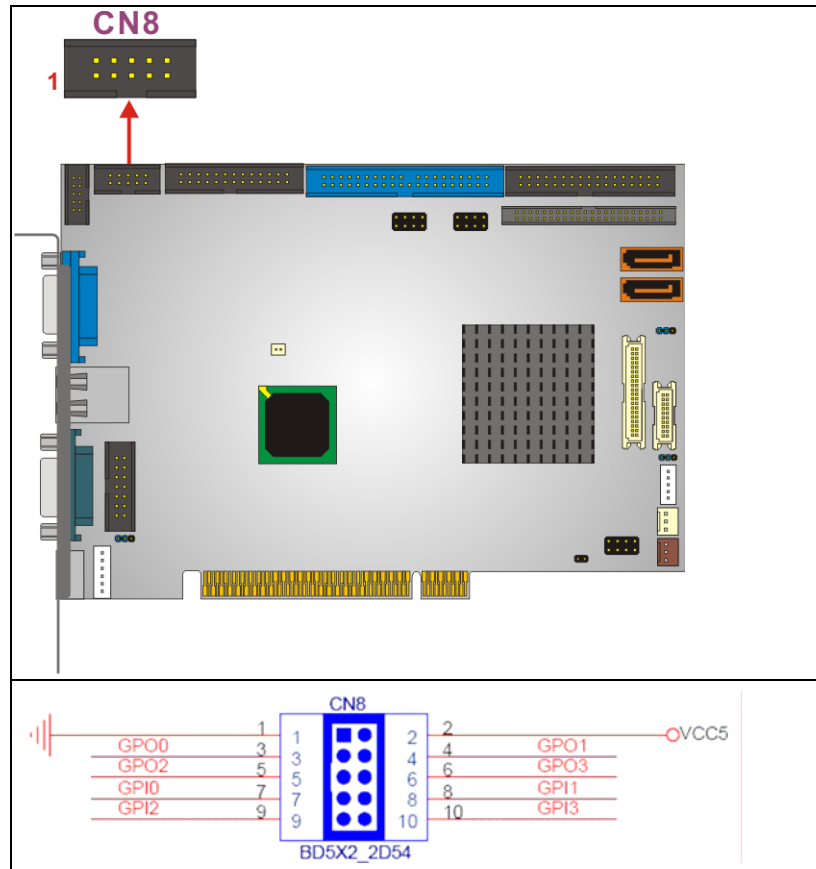

Figure 3-9: GPIO Connector Location
- CN Location:** See Figure 3-9